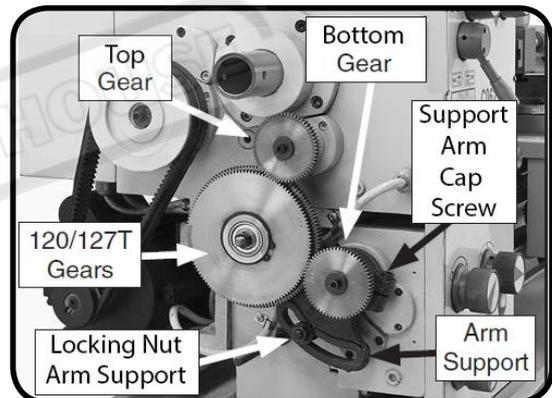

Fig. 41
4. Loosen the arm support cap screw shown in Fig 41